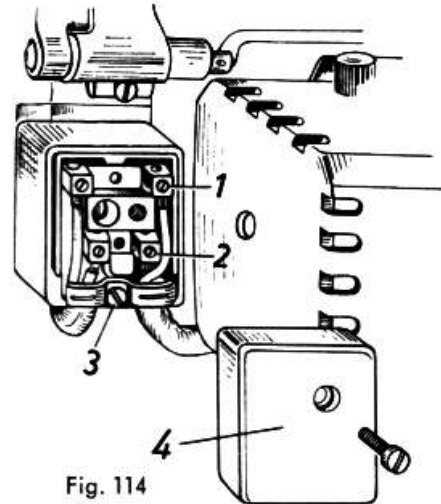

Fig. 114
1. Remove cover 4 of the terminal box located beside the sewing hook (Fig. 114).
4. Connect the short end of the motor cord to terminal 2, the long end to terminal 1, as shown in Fig. 114. Secure the cable sheath in position by the clip held in place by screw 3. Replace and screw down the terminal box cover.